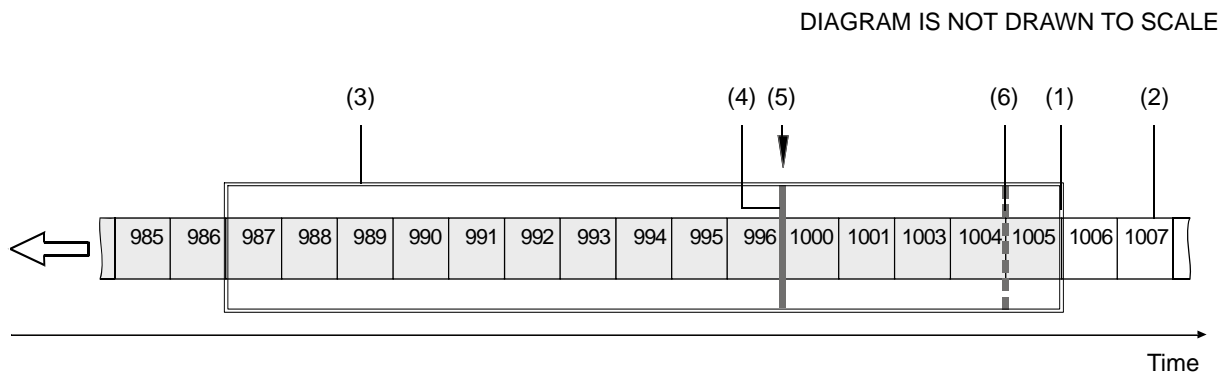

Fig. 7: Example of a Receive Window with Resend Request Threshold & Resend Request Batching Threshold
The threshold resend request mechanism is illustrated in Fig. 7 where the following assumptions are made:
- (1) Front end of the receive window. Missing packets are detected here.
- (2) Stream of packets. Gray indicates that the status was checked as the packet entered the receive window. White indicates that the status has not yet been checked.
- (3) Receive window of the performance driver.
- (4) Threshold for sending resend requests (resend request threshold).
- (5) A separate resend request is sent for each packets 997, 998, and 999.
- (6) Threshold for batching resend requests for consecutive missing packets (resend request batching threshold). Only one resend request will be sent for the consecutive missing packets.
**Resend Request Threshold** - This parameter determines the location of the resend request threshold within the receive window as shown in Fig. 7. The parameter value is in per cent of the width of the receive window. In Fig. 7 the resend request threshold is set at 33.33% of the width of the receive window.
A stream of packets advances packet by packet beyond the resend request threshold (i.e. to the left of the resend request threshold in Fig. 7). As soon as the position where a packet is missing advances beyond the resend request threshold, a resend request is sent for the missing packet.
In the example shown in Fig. 7, packets 987 to 1005 are within the receive window and packets 997 to 999 and 1002 were detected as missing. In the situation shown, a resend request is sent to the camera for each of the missing consecutive packets 997 to 999. The resend requests are sent after packet 996 - the last packet of the intact sequence of packets - has advanced beyond the resend request threshold and before packet 1000 - the next packet in the stream of packets - can advance beyond the resend request threshold. Similarly, a resend request will be sent for missing packet 1002 after packet 1001 has advanced beyond the resend request threshold and before packet 1003 can advance beyond the resend request threshold.
**Resend Request Batching** - This parameter determines the location of the resend request batching threshold in the receive window (Fig. 7). The parameter value is in per cent of a span that starts with the resend request threshold and ends with the front end of the receive window. The maximum allowed parameter value is 100. In Fig. 7 the resend request batching threshold is set at 80% of the span.
If the Resend Request Batching parameter is set to 0, no batching will occur and a resend request will be sent for each single missing packet. For other settings, consider an example: Suppose the Resend Request Batching parameter is set to 80 referring to a span between the resend request threshold and the front end of the receive window that can hold five packets (Fig. 7). In this case 4 packets ( $5 \times 80\%$ ) will fit into the span between the resend request threshold and the resend request batching threshold. Accordingly, the maximum number of consecutive missing packets that can be batched is 5 ( $4 + 1$ ).